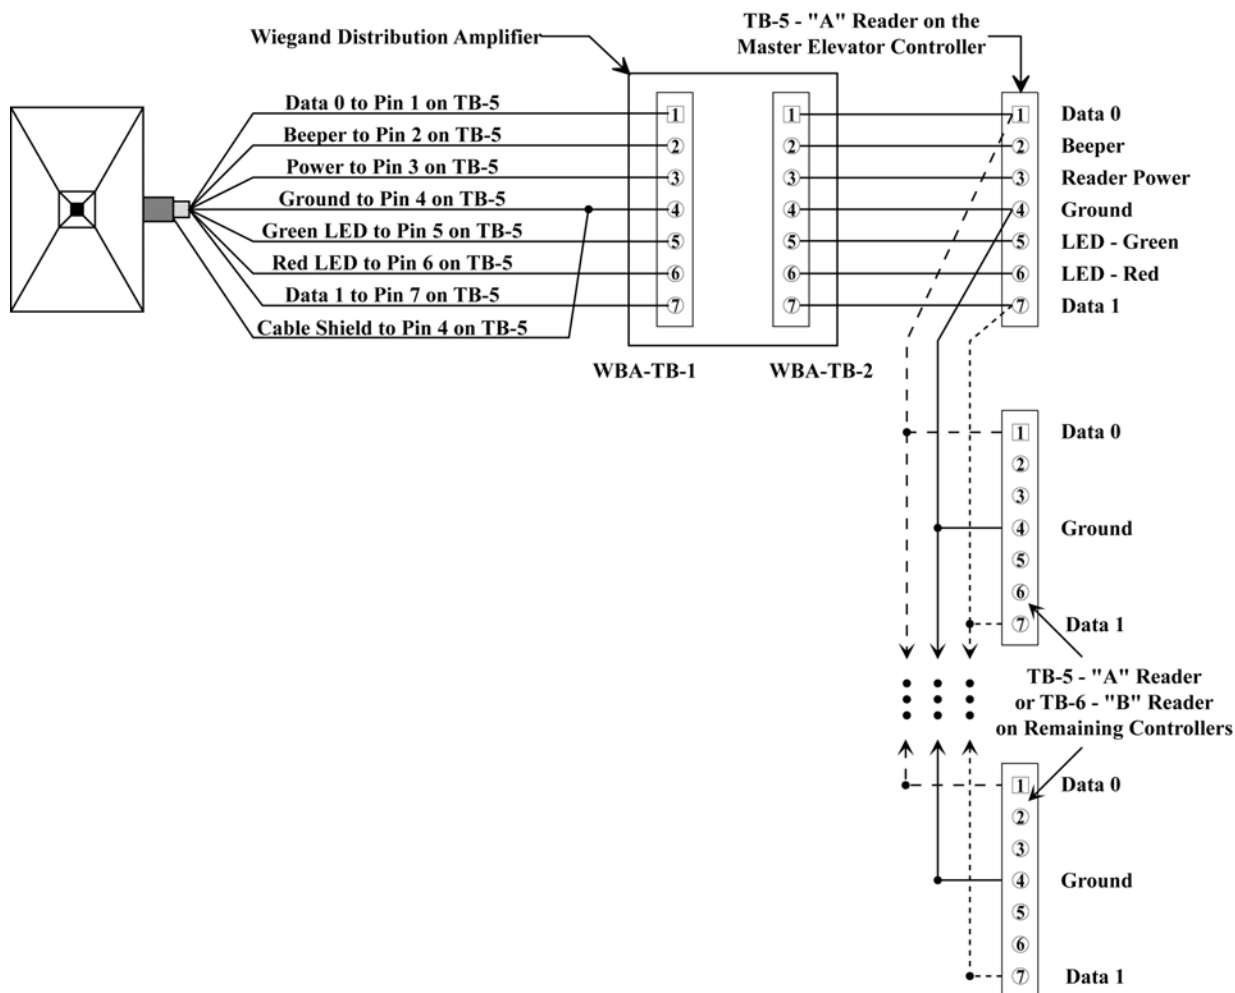

Figure 9: Daisy-Chained Wiegand Reader Connections
- Make the Wiegand reader to Distribution Amplifier connections per the information in Table 3 and Figure 9 on page 15.
- Make the Distribution Amplifier to master elevator panel connections per the information in Table 4 and Figure 9 on page 15.
Make the data line daisy-chain connections per the information in Table 5 and Figure 9 on page 15.